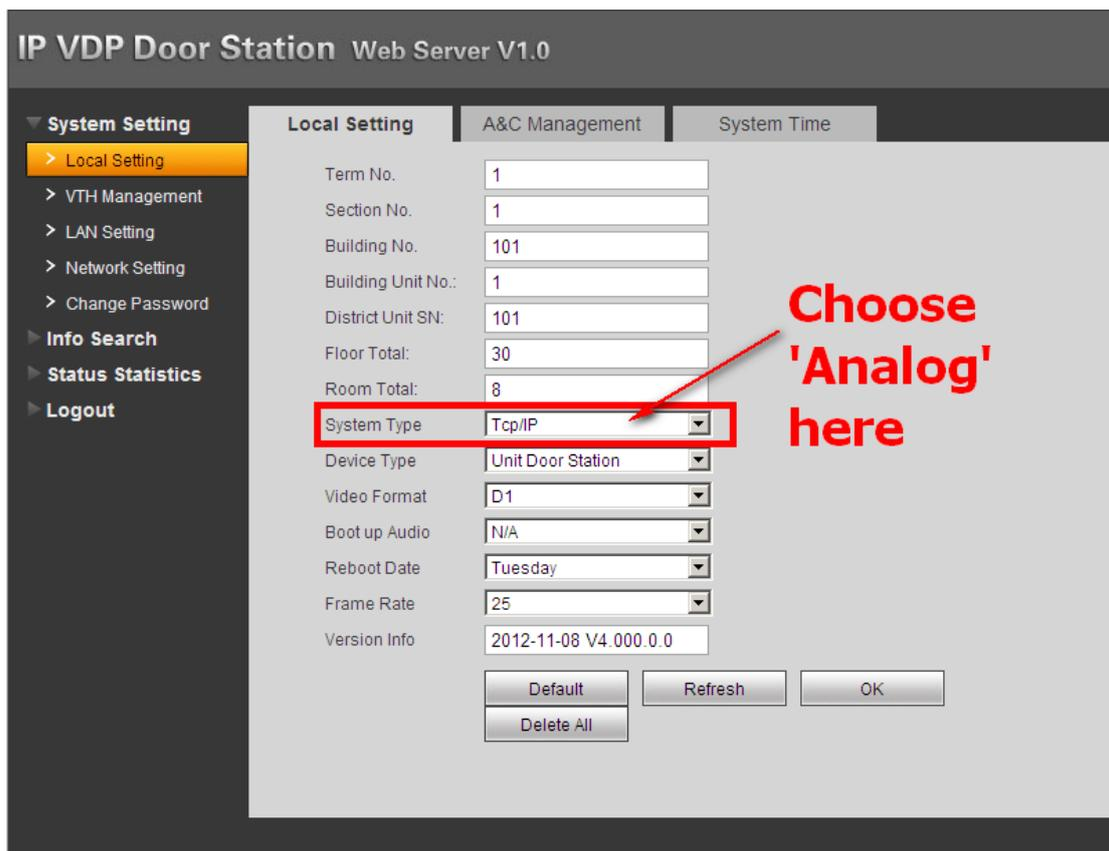

Figure 2-7
**Step 1** Log in VTO's web interface, check System Setting>Local Setting, choose System Type into Analog, Video Format into D1, see Figure 2-7.